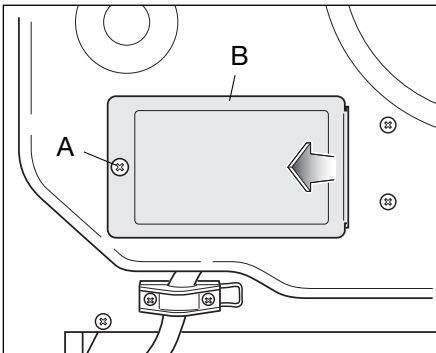

Fig. 9
- Unscrew the screw "A" securing the cover plate "B" behind the oven (Fig. 9).